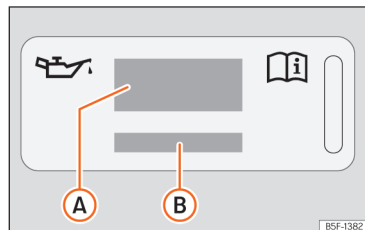
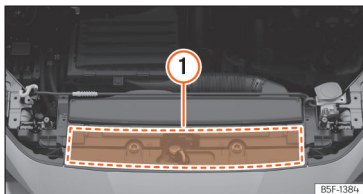

Fig. 177 In the engine compartment: engine oil label
Fig. 178 In the engine compartment: area where the engine oil label is located
Key to the >>> **Fig. 177**:
If the engine oil has to be topped up, use one of the oils shown on the label >>> **Fig. 177**. The label with the prescribed standard is located at the front of the engine compartment >>> **Fig. 178** **(1)**. If you use the recommended engine oil, you can top up the oil as often as necessary.
- If the label showing the engine oil specifications is missing >>> Fig. 177, please contact a specialist workshop.